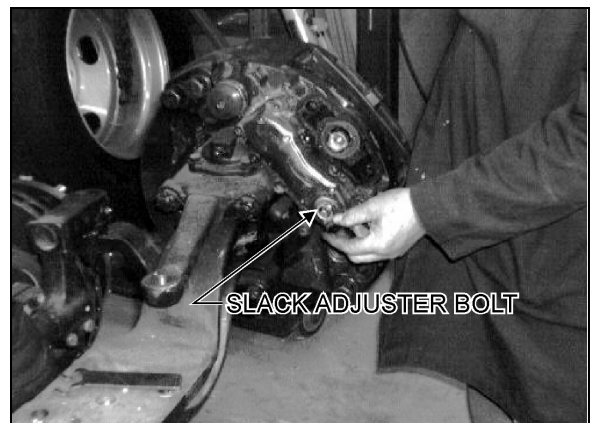

Figure 5
6. Loosen caliper assy by fully unscrewing the slack adjuster bolt counterclockwise (see Fig. 5).